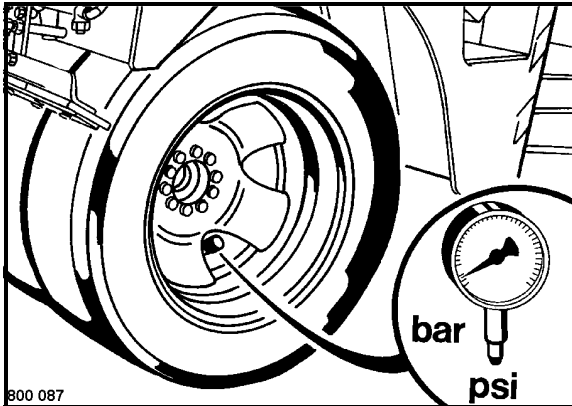

Fig. 165
- Check the tire pressure with a pressure gauge (Fig. 165) on the tire valve.